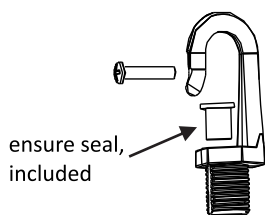

FIG. 1
2. Find the Hook accessory as Fig. 1 shows from bag. (ensure to seal the middle hole in Hook)